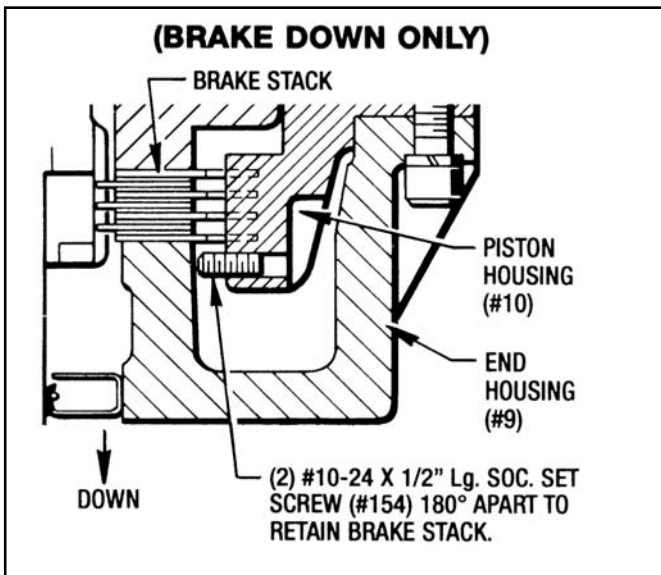

Figure 3.7 - Brake Stack Down
NOTE - On Vertical Brake Down Units there are (2) #1024 X 1/2" Lg. Socket Set Screws (#154) installed in the Piston Housing to retain the Brake Stack during Disassembly and Reassembly procedure. (See Figure 3-7 on next page.)